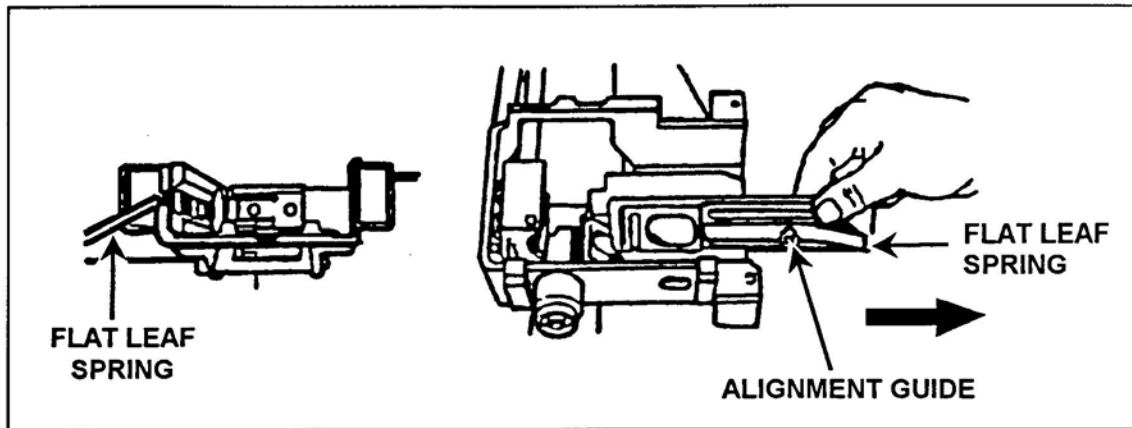

Figure 10. Removal of the alignment guide assembly.
- (3) Lift off the top cover.
- (4) Lift the tray out of the feeder.
- g. Remove the alignment guide assembly (Figure 10).